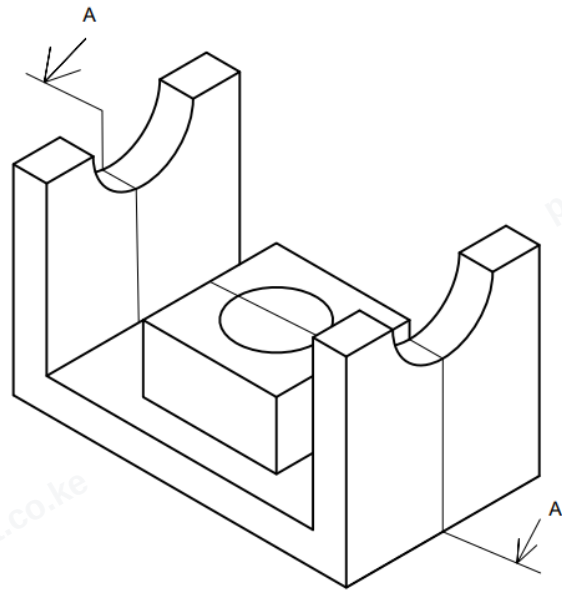

Figure 1
10. Using free hand sketch illustrate how the Figure 1 below will be hatched. (4 Marks)